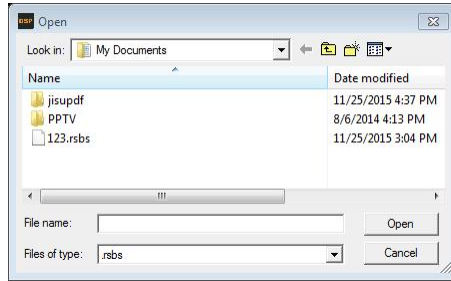

Figure 3.4.7
**Step2:** Click "computer import" after entry window will pop open file dialog box (Figure 3.4.7).